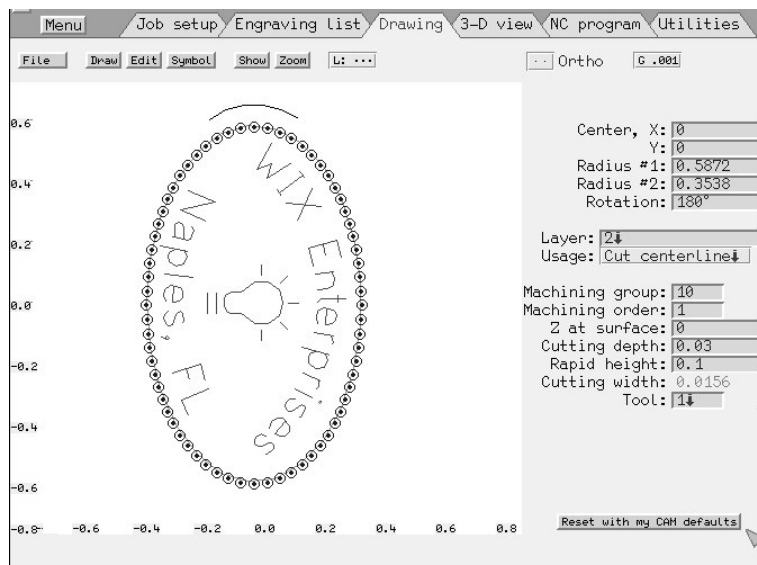

Figure 15-6
- click the left mouse button in that parameters area. This causes a button to appear at the bottom that says **Reset With My Default Values**, (Figure 15-6)